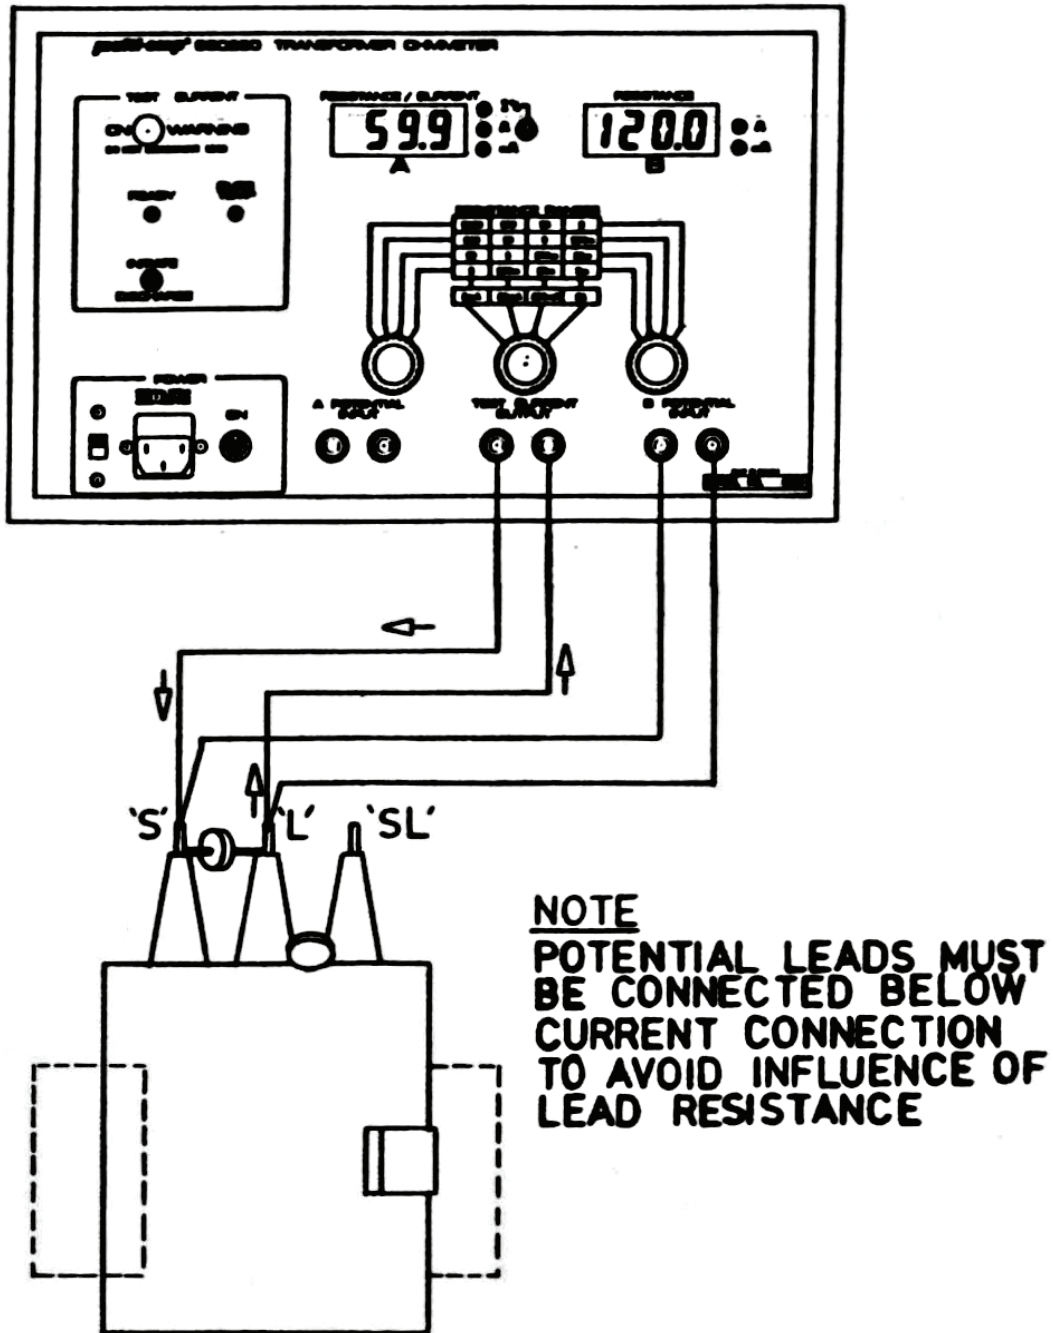

FIGURE 18: CONNECTION TO A REGULATOR
See Figure 18 for connection to the voltage regulator.
- a. Display Selector (14): up position.
- b. Range Selector "A" (12): left most position.
- c. Range Selector "B" (13): right most position.
- d. Current Selector (11): 5A nominal (guide by resistance table on face plate).
3. Connect current output (9) to test specimen winding.
4. Connect "B" potential input (10) to test specimen winding. Do not clip potential leads on to the current leads, since this will add contact resistance to the measurement. Potential leads should always be placed inside (between) current leads. See Figure 18.
5. Turn power switch (1) "ON". "READY" L.E.D. (5) should illuminate.
6. Push current control switch (4) up to initiate current flow. Release when current indicator (7) comes ON.
7. Display "A" (15) indicates current output (in %). As output current approaches steady value, display "B" (16) comes on and indicates resistance of specimen.
8. The range switch "B" (11) may require re-setting to a more suitable resistance range.
9. When measurement is complete, push the current control switch (4) down to terminate measurement and discharge current. Discharge is complete when current indicator (7) is off.